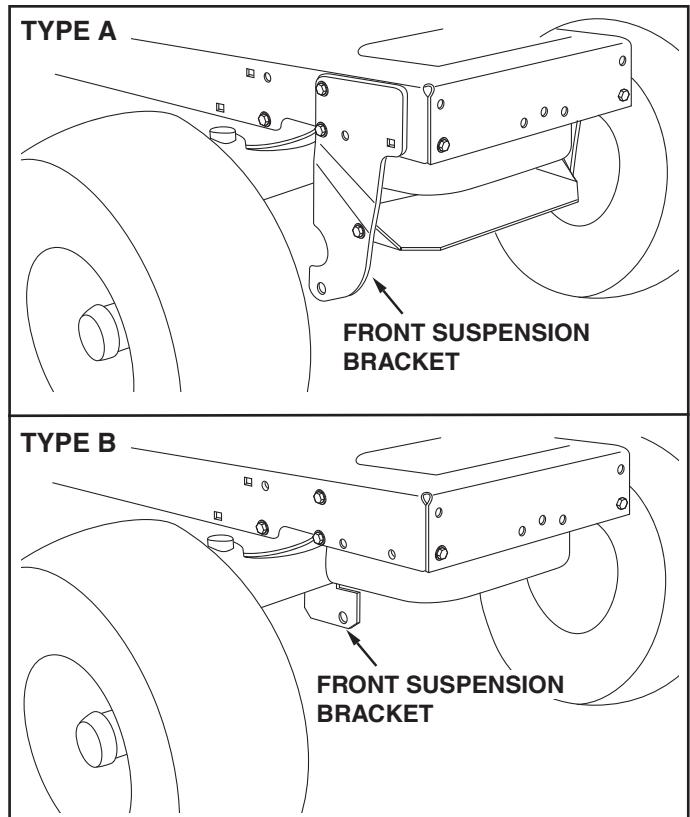

FIGURE 4
### STEP 4: (SEE FIGURE 4)
- Compare your tractor to the illustrations shown in figure 4. If your tractor resembles the top illustration, go to step 5. If your tractor resembles the bottom illustration, go to step 7.